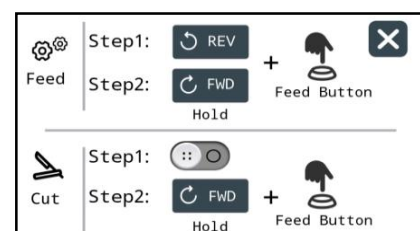

Figure 7b
1) Tap  in the settings page to enter this page. (Figure 7b).